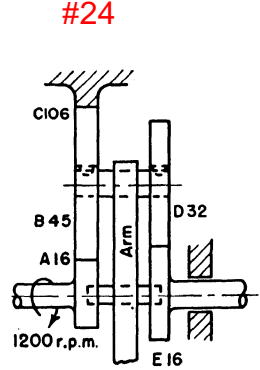

Fig. P 11.16
11.16. Determine the speed and direction of rotation of gear *E* in Fig. P 11.16.